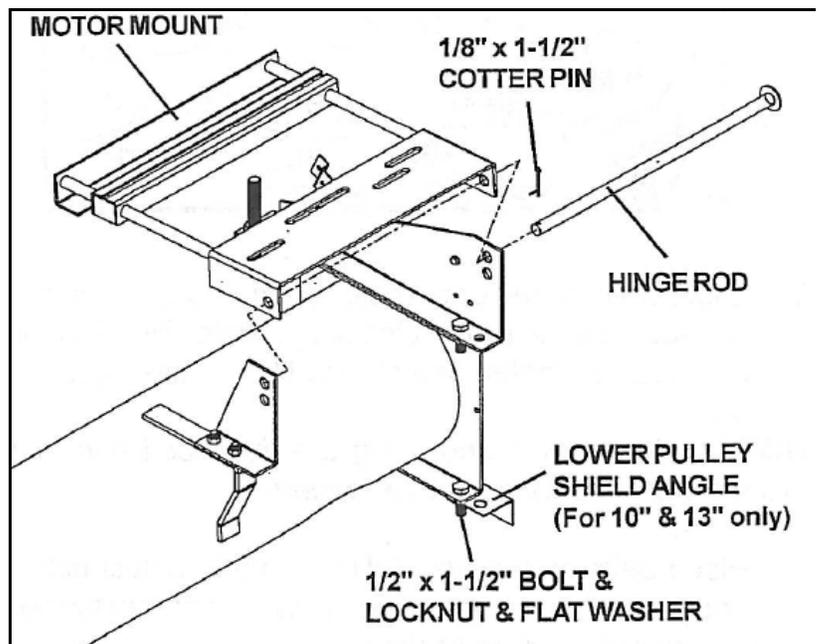

Figure 3.9
4. Place motor mount assembly in between the 2 mount plates and insert hinge rod as shown in Figure 3.9. Secure hinge rod with a 1/8" x 1-1/2" cotter pin.
- ➡ 5. **For 10" and 13"** augers, attach lower pulley shield angle to the head plate with two 1/2" X 1-1/2" bolts and locknuts and 1/2" flat washers (Figure 3.9). Tighten securely.